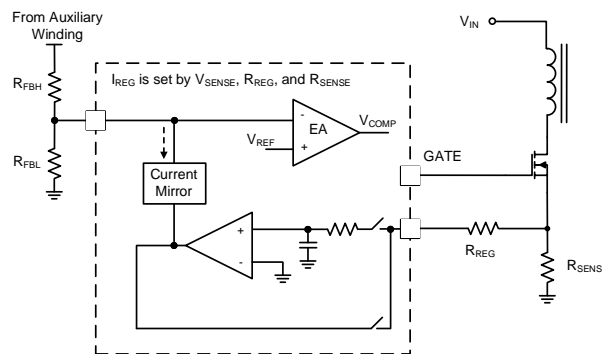

Figure 7: Output Voltage Compensation
There are three types of current gains based on the average V_{SENSE} (see Table 3 on page 24). A sink current on FB leads to a voltage drop on FB's high-side (HS) feedback resistor (R_{FBH}), which compensates V_{OUT} (see Figure 7).